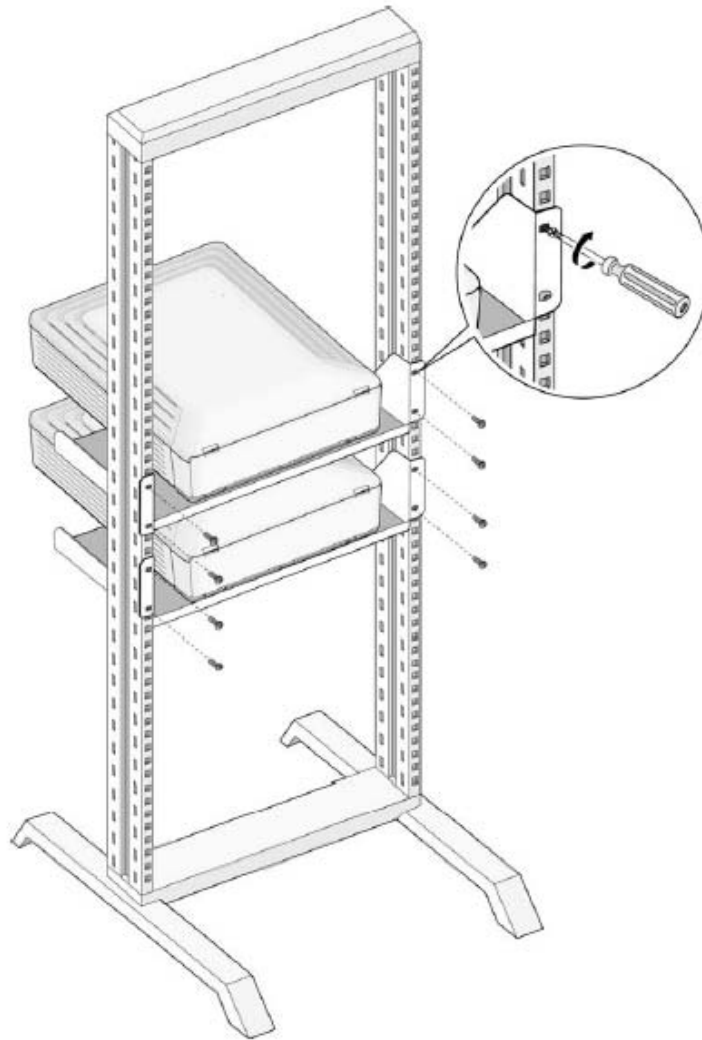

Figure 3-14 EKSU Rack Mounting
3. To attach the SBX IP 320 System to the rack, affix the bracket with the 4 screws provided (Figure 3-14).